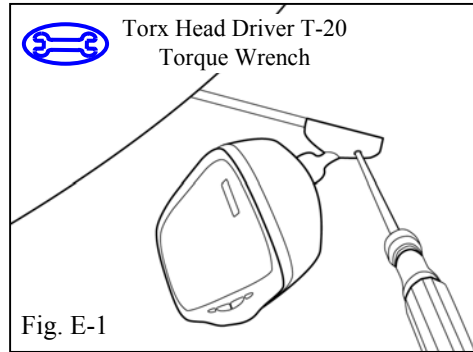

Fig. E-1
2. Tighten the screw on the mirror mounting bracket. (Fig. E-1)